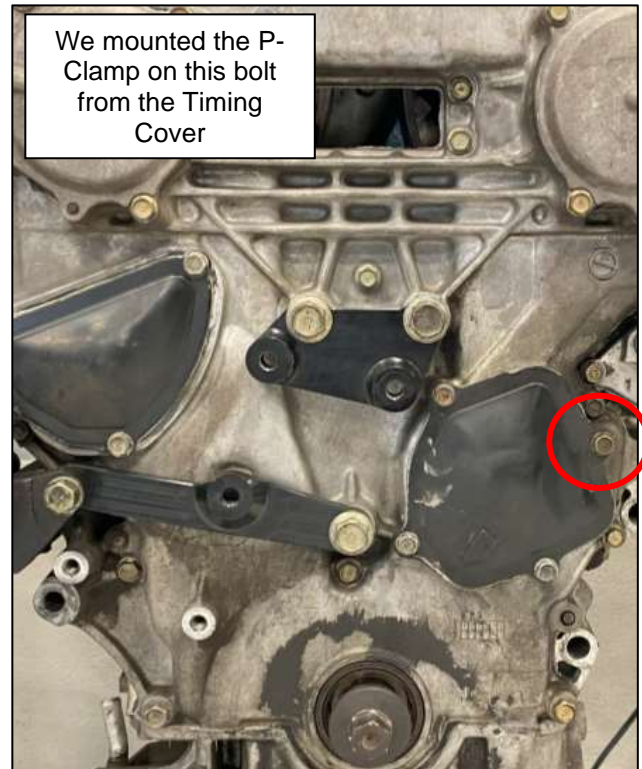

Figure 49
15. Position the Coolant Crossover Pipe out of the way so it does not contact the Drive Belt. Use the Supplied 1" Cushioned P-Clamp (#17) to secure the lower half of the Coolant Crossover Pipe to the Timing Cover. Remove a Timing Cover bolt to secure the P-Clamp. *Figure 49.*